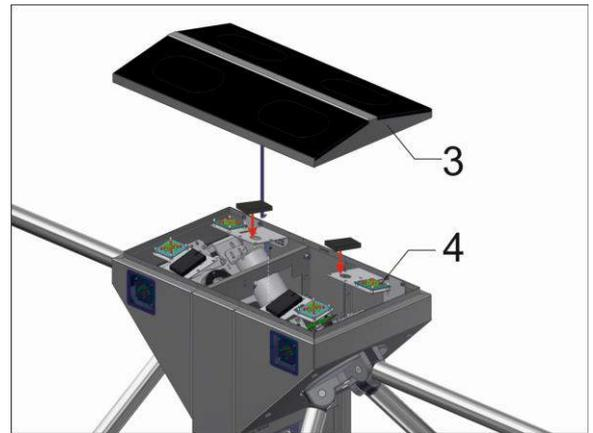

Рис. 16– Установка считывателя в турникет-трипод
- In the turnstiles «CENTURION TWIN», «TWIX TWIN» и «BASTION TWIN» card readers are installed on special and height adjustable bracket, which is located under upper lid **4** next to LED display **3** (Fig. 16).